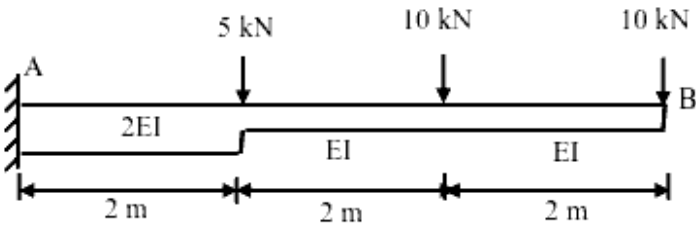

Fig 1 Q-3 (a)
- Q.3 (a)** Find the slope and deflection at the free end B of a cantilever beam AB as shown in Fig. 1 by moment area method. Take $I = 2 \times 10^8 \text{ mm}^4$ and $E = 2 \times 10^5 \text{ N/mm}^2$. **07**